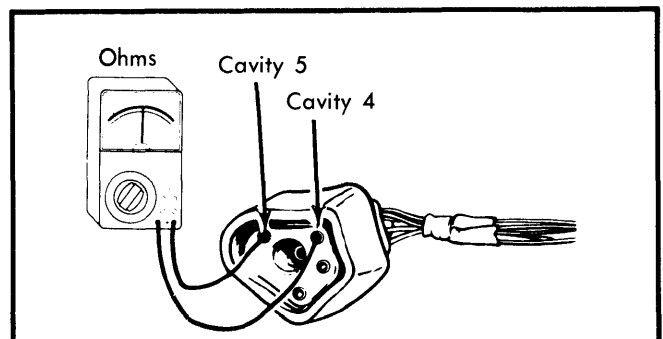

Fig. 13 Checking Resistance at Cavities No. 4 and 5 (Pick-Up Coil Resistance)
1) Turn ignition switch "OFF". Disconnect control unit harness connector. Connect ohmmeter leads to cavities 4 and 5 of harness connector. See Fig. 13. Ohmmeter reading should be 150-900 ohms. If reading is not to specifications, make same check at 2-wire connector(s) leading to distributor. If readings at pick-up coils are now correct, start-run relay or harness from control unit to distributor is defective. If readings are still not correct, replace faulty pick-up coil assembly.